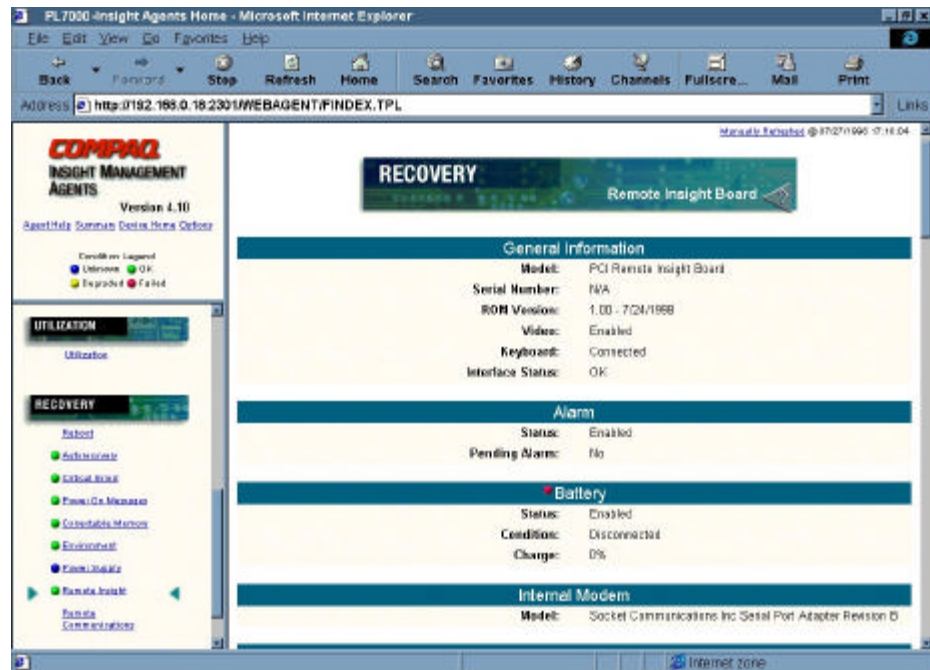

Figure 2: Insight Manager GUI
An example of the integration of Remote Insight and Compaq Insight Manager is the recovery feature. Figure 2 shows the Recovery sub-menu from Insight Manager. OS support is needed only for the integration of software management functions. Compaq Insight Manager agents support the following major network operating systems: Microsoft Windows NT 4.0 and 3.51, Novell NetWare/IntranetWare, SCO OpenServer, UnixWare, and IBM OS/2. Since Remote Insight is hardware-based and OS-independent, even servers that use unsupported operating systems will be able to access Remote Insight and its critical hardware functions, such as Remote Console, Remote Reset, Video Sequence Replay, and Alerting.
Figure 2 shows a timeline of typical reset events. The previous reset sequence (1), failure sequence (2), and current reset sequence (3) are stored in memory for replay as needed. The administrator can define viewing speed of the replayed sequences and can pause to allow viewing as slowly or as quickly as desired. The administrator can review these sequences to gain vital troubleshooting information, identify and resolve problems, and reduce server downtime.